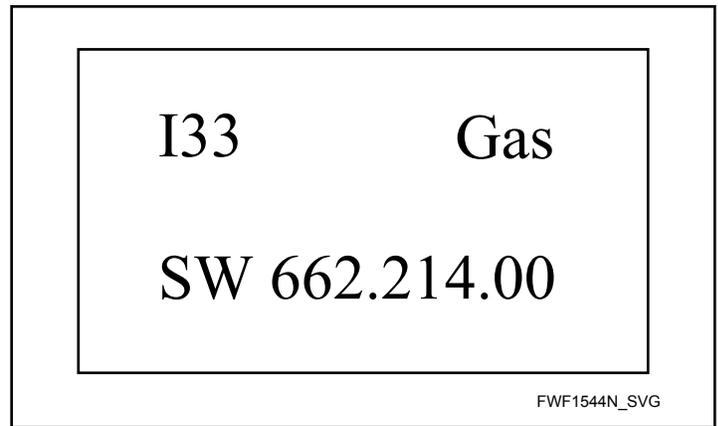

Figure 3
- The software version number in *Figure 3* shows the lowest valid software version used for machines described in this manual.